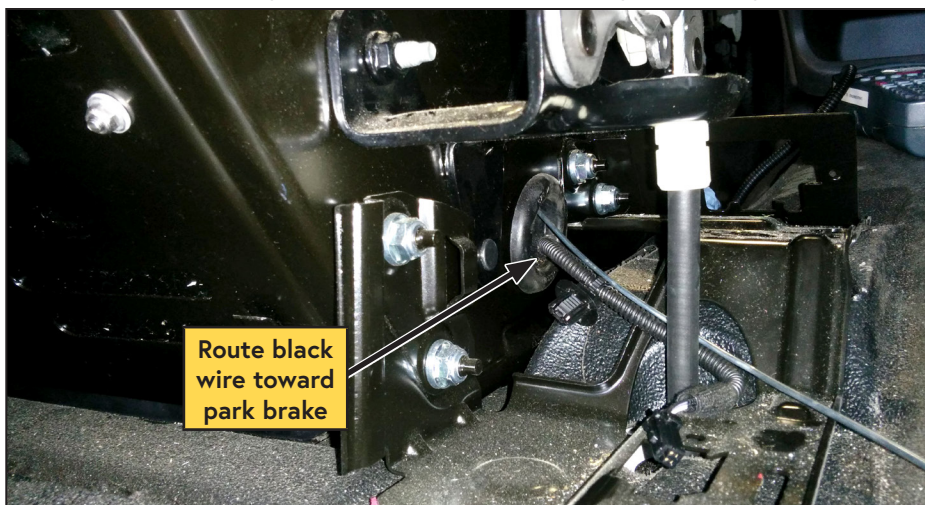

Figure 66 — Route black wire
- Feed the wire through the park brake wire harness grommet (Figure 66).